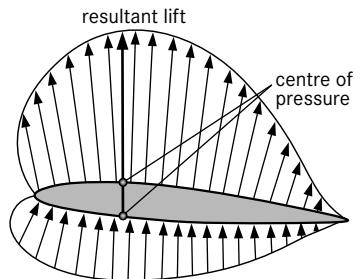
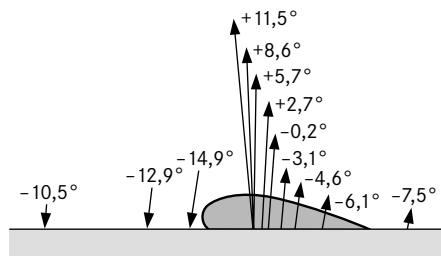
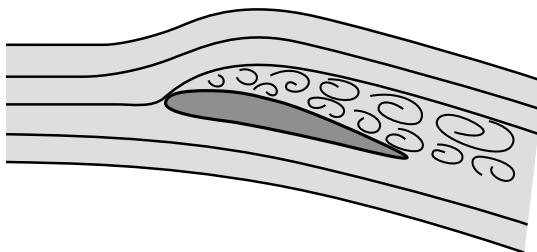

Figure 1.4 Pressure distribution diagram
Figure 1.5 Variation of forces and position of centre of pressure with angle of attack
Figure 1.6 Formation of Stall
2. When the wing of an aircraft moves forward through the air, the flow of air along the lower surface arrives at the trailing edge before the flow along the upper surface. The lower surface flow attempts to expand around the trailing edge. As a result of this, a vortex is formed. The rotation of this vortex accelerates the upper surface flow, so that the length of time required for a particle of air to move from the leading edge to the trailing edge becomes the same for the upper and the lower surface flow. The increased velocity of the upper surface flow eliminates the formation of a vortex by the lower surface air at the trailing edge, and it produces a lower pressure at each point on the upper surface than exists at the corresponding points on the lower surface. It is this difference in pressure that produces the lift. The distribution of lift along the cross-section of a wing is illustrated by the pressure-distribution diagram (Figure 1.4). The magnitude of the forces changes with the angle of attack (or angle of incidence), i.e. the angle between the direction of the air flow and the chord line of the wing (Figure 1.5). The resultant aerodynamic force acts at the centre of pressure (Figure 1.4); its position varies with the angle of attack. The stability of an aircraft is significantly determined by the displacement of the centre of pressure. With an increasing angle of attack, this point moves forward. When the angle is increased beyond the value that produces maximum lift, "stall" occurs: this results in loss of flying speed and lift and finally loss of control; the air flow detaches itself from the upper surface (Figure 1.6).